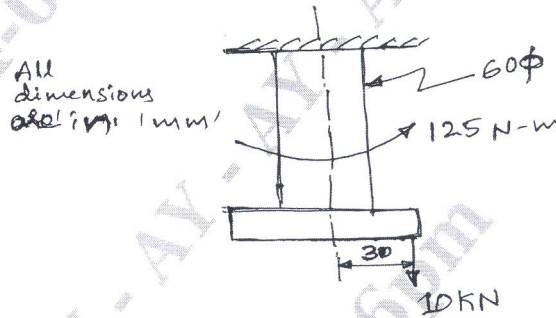

Fig.Q1(c)
c. Determine the max tensile and maximum shear stress for the Fig.Q1(c) shown below :